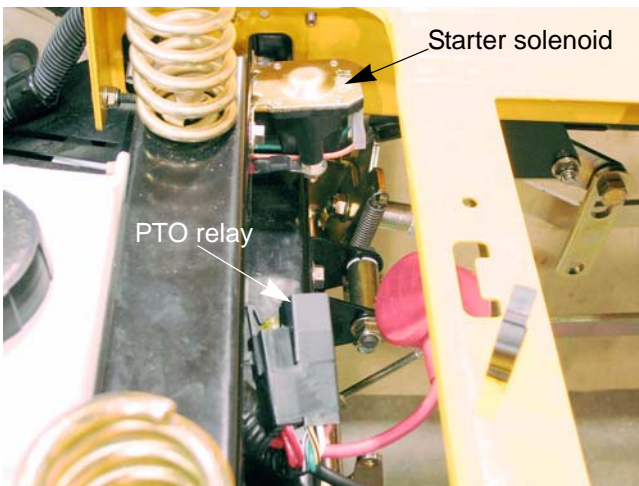

Figure 4.26
5. Disconnect the fuse holder/PTO relay from the seat box. See Figure 4.26.